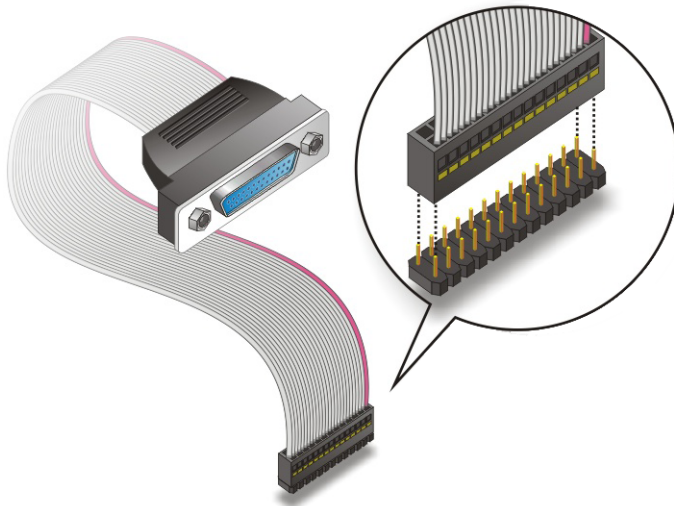

Figure 5-12: LPT Cable Connection
Step 2: Align the connectors. Correctly align pin 1 on the cable connector with pin 1 on the 3308460 LPT box-header connector. See Figure 5-12.
Step 3: Insert the cable connectors Once the cable connector is properly aligned with the 26-pin box-header connector on the 3308460, connect the cable connector to the on-board connector. See **Figure 5-12**.